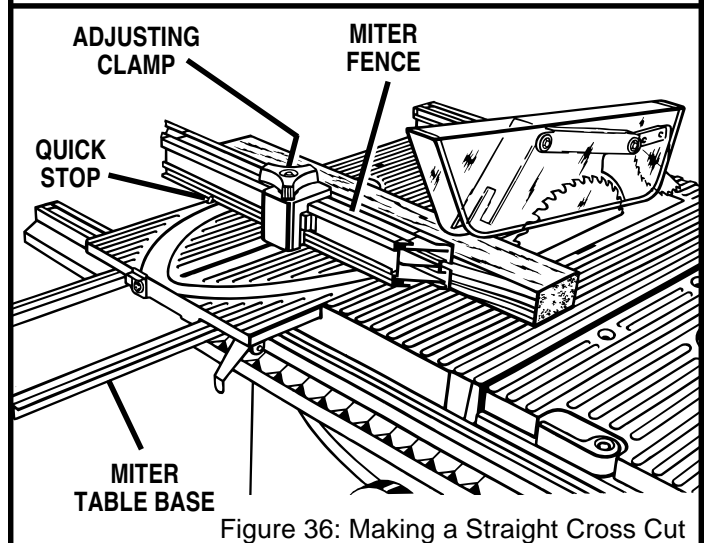

Figure 36: Making a Straight Cross Cut
See Figure 36.
6. Make sure the wood is clear of the blade before turning on the saw. See Figure 36.